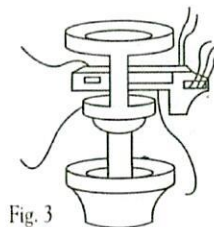

Fig. 3
- 5) Lower your ceiling fan canopy. Insert the receiver into the mounting bracket. See Fig. 3.